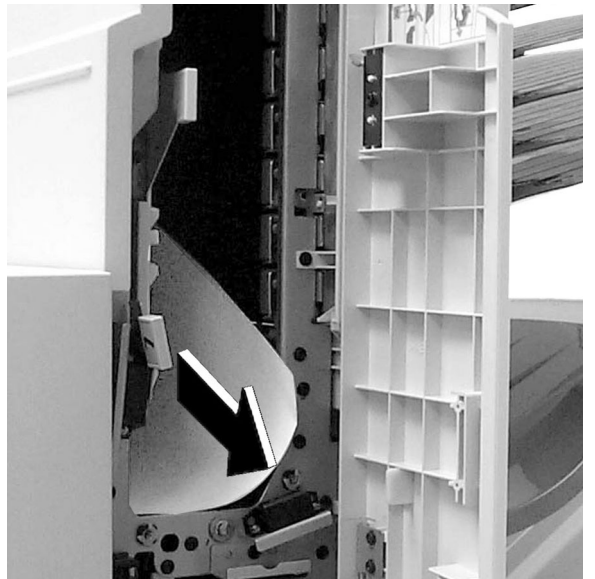

Figure 15: Removing paper from Area 7
- 3 Remove the jammed paper (Figure 15).